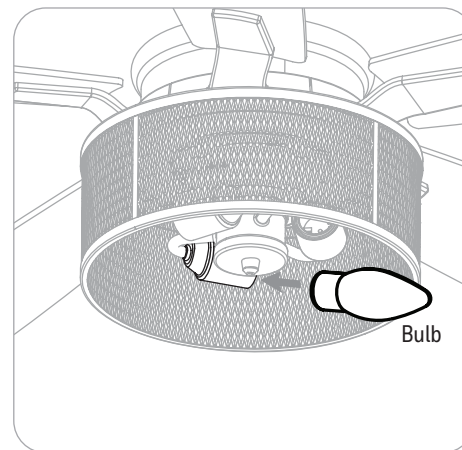

Figure 5.8
8. Install the three E26-base bulbs into the sockets of the light kit (Figure 5.8).